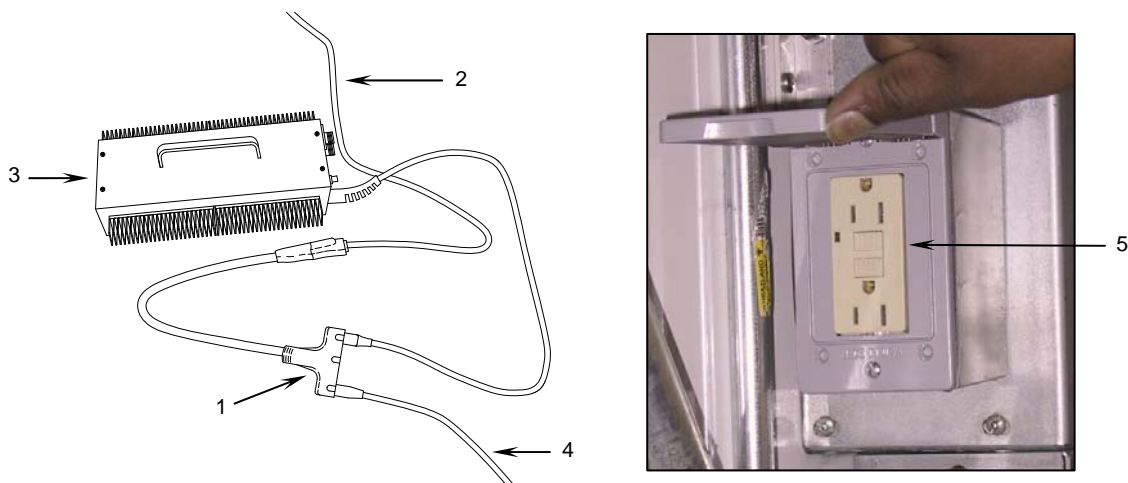

Figure 3. Connecting Electric Lights to Power Source.
- a. Connect the MBU kit cable assembly (**Figure 3, Item 1**) to the 50-ft extension cord (**Figure 3, Item 2**).
- b. Connect the MBU power converter (**Figure 3, Item 3**) and the 25-ft extension cord (**Figure 3, Item 4**) to the cable assembly (**Figure 3, Item 1**).
- e. Connect the 50-ft extension cord (**Figure 3, Item 2**) into the GFCI protected power source (**Figure 3, Item 5**).